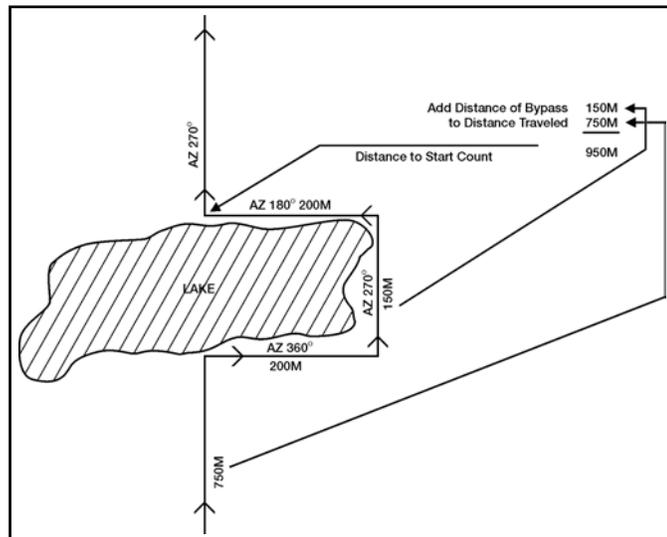

Figure 071-329-1006-6. Bypassing an obstacle
e. If you should encounter an obstacle, you may have to detour around it (figure 071-329-1006-6). To do this, complete a series of 90-degree turns until the obstacle is bypassed and you are back on the original azimuth.